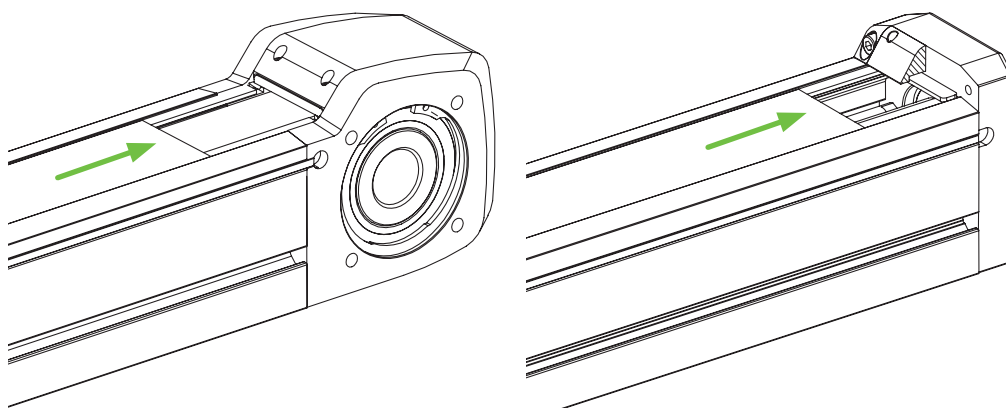
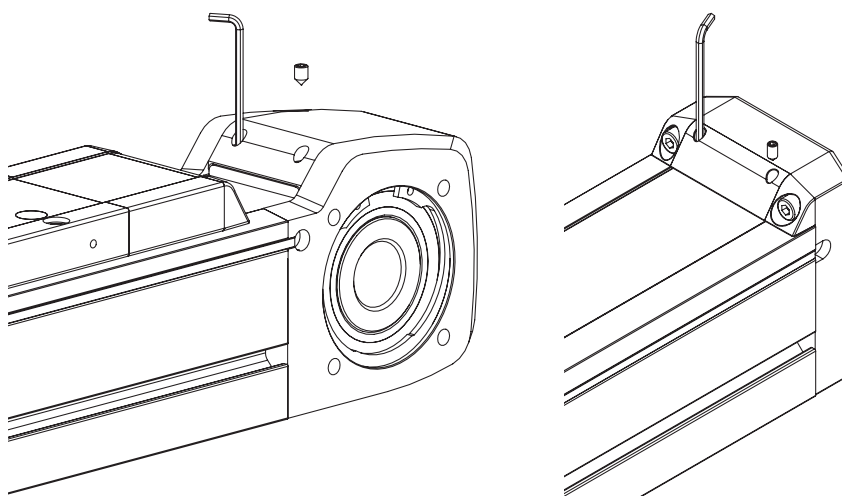

Fig. 8.7 Installing the cover strip in the cover strip clamp on the HM-B (left) and HM-S (right)
Fig. 8.8 Installing/removing the cover strip clamp on/from the HM-B (left) and HM-S (right)
- ▶ Undo the clamping screw of the cover strip clamp at both ends of the axis as shown in Fig. 8.8.
- ▶ Push the ends of the cover strip under the cover strip clamp on both sides. Make sure that the cover strip is aligned centrally with the axis profile and that it is in contact with the magnetic strips across the entire length. Tighten the clamping screws of the cover strip clamp (see Fig. 8.7 and Fig. 8.8). For details of the tightening torques, see Table 8.6.